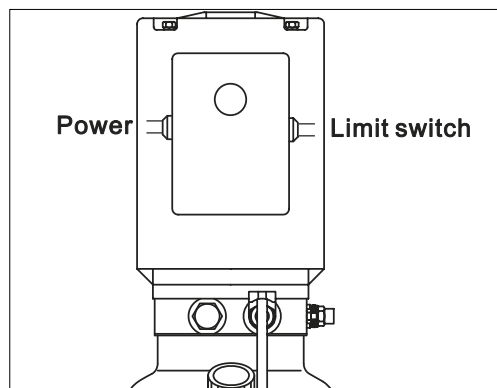

Fig. 39
4.4.3.2 Connect the power supply cable and end limit switch wire to the terminal strip on the junction box of the motor (**Fig. 39**) following the wiring diagram on **Page 4**.
4.4.3.4 Close the cover of the junction box. Press the up push button (**Fig. 39**), the motor rotation direction should be the one shown by the arrow on the pump.